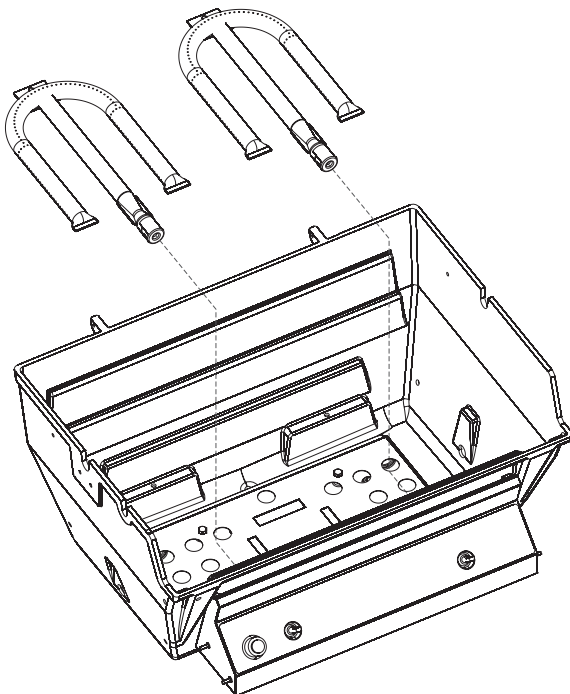

Figure 2
3. Place burners (8) into grill and insert burner tubes over orifice fittings on valve (17). Secure each burner and burner shield (25) with one (1) 1/4-20 x 3/4 phillips screw. See Figures 2, 3 and 4.